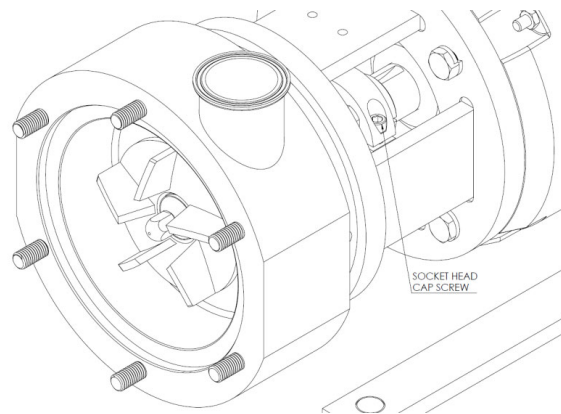

**Figure 19**
11. Replace the cover, cover gasket and wing nuts as shown in Figure 19. Once the wing nuts are tightened turn the stub shaft by hand or with an extended socket wrench a few revolutions, listening to make sure nothing is rubbing inside the mixer. Running with foreign objects in the mixer or having the rotor making contact with the cover will result in serious damage if not completely destroying the mixer. If the shaft turns freely and the rotor is not rubbing the any other components replace the shaft guard and the mixer is ready to be re-connected to the piping system.